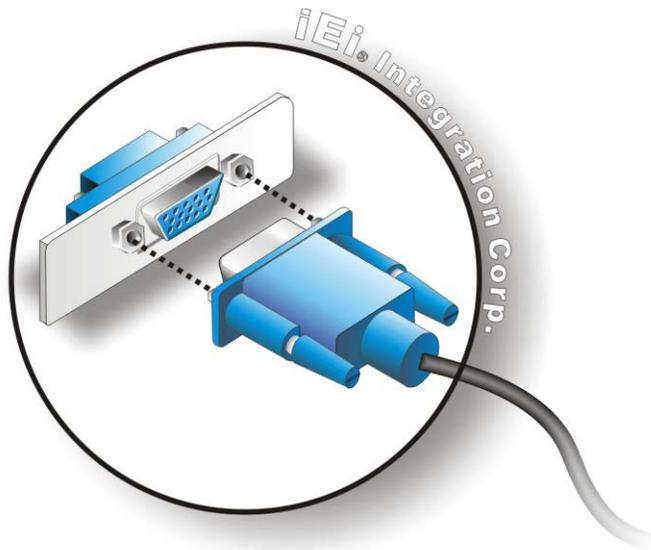

Figure 4-12: VGA Connector
- Step 7:** **Insert the VGA connector** Once the connectors are properly aligned with the insert the male connector from the VGA screen into the female connector on the NANO-KBN-i1. See **Figure 4-12**.